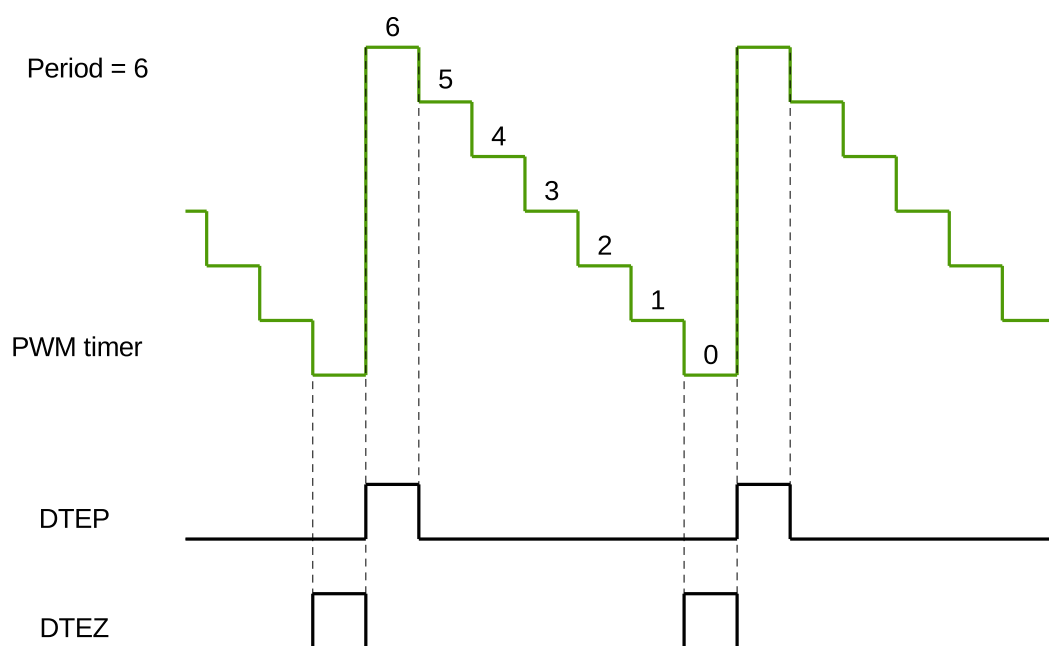

Figure 101: DTEP and DTEZ Generation in Count-Down Mode
2. DTEP and DTEZ do not happen simultaneously. When the PWM timer is in count-down mode, DTEZ will always happen one cycle earlier than DTEP, as demonstrated in Figure 101, so their action on PWM signals will not interrupt each other. When the PWM timer is in count-up-down mode, DTEZ will not occur.